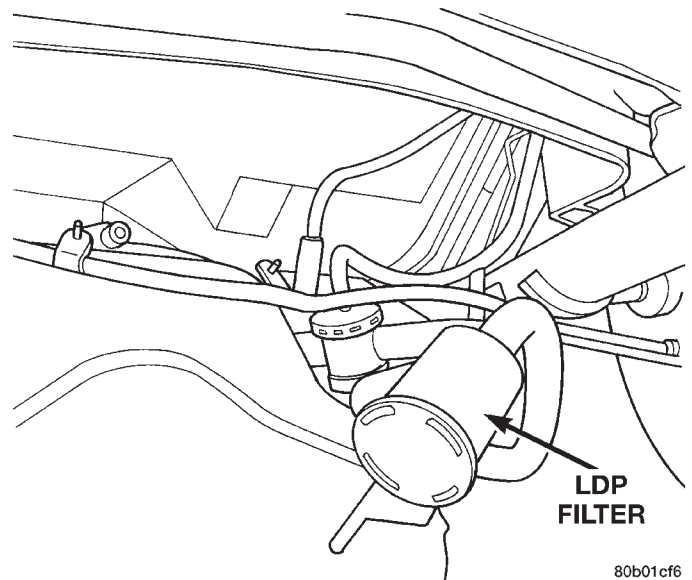

Fig. 14 Evap Components
(7) Position transmission jack under fuel tank assembly.
(8) Remove fuel tank straps bolts. Passenger side first.
(9) Lower fuel tank and remove the purge line and vent line (Fig. 14).